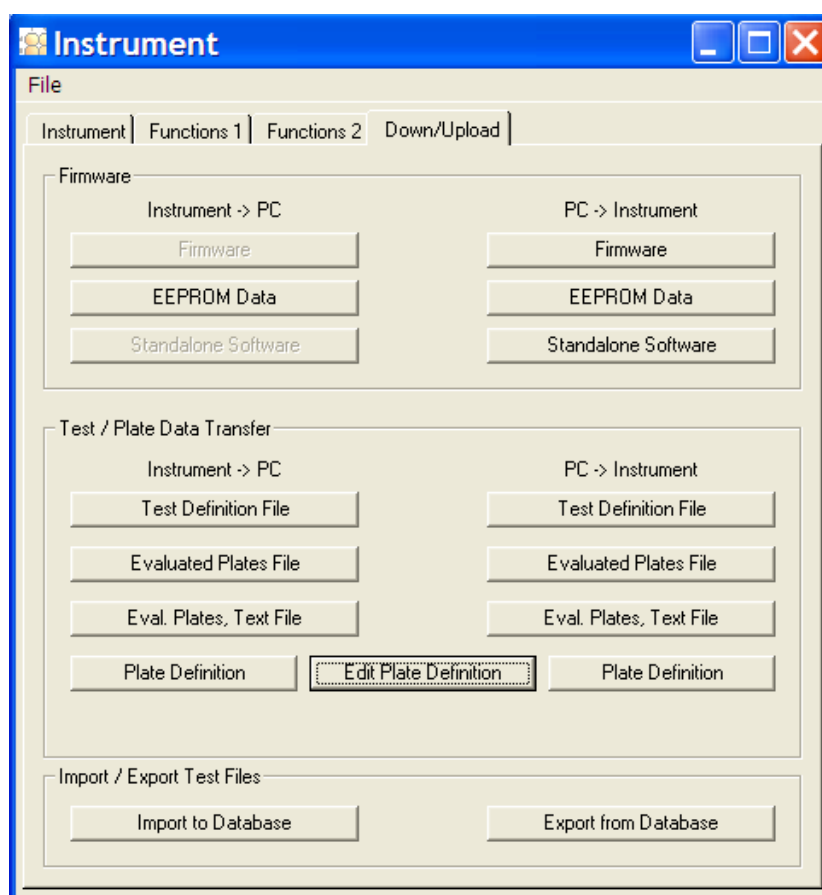

Figure 5-7: Down/Upload – Import/Export Test Files
2. Choose **Down/Upload** (Figure 5-7).
2. Select the **Down/Upload** tab to display it (Figure 5-7).